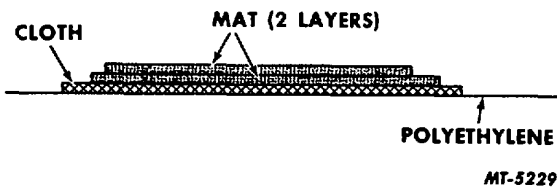

Fig. 4
4. Coat the inner surface of area being repaired with the resin mixture. When tacky, apply the patch prepared in item 3. Using the polyethylene sheet, press out air pockets and allow patch to cure.
5. On a piece of polyethylene, place another piece of cloth larger than hole being repaired. Saturate with resin mixture. Apply two layers of mat (Fig. 4), saturating both with the resin mixture. Coat the outer surface of area being repaired with the resin mixture. When tacky, position the entire patch on the prepared surface and press into position. Allow the patch to cure.